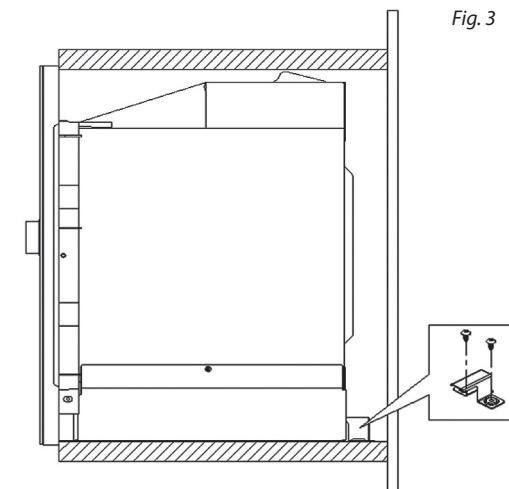

Fig. 3
1. Follow the instructions in Figures 3 and 4 to secure the oven using the fixing plate and screw in the front section. First use the attached stencil to identify the holes for screws that hold the lower fixing plate. Drill holes and use screws to attach the plate. Slide the oven into the opening and rest it on the stop. Insert the fixing plate into the opening at the rear cover of the oven.